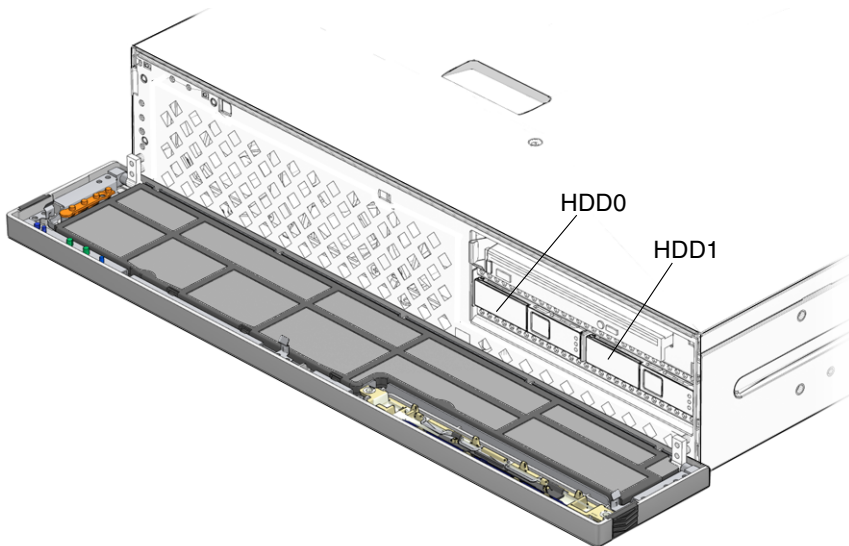

FIGURE 3-2 Locations of HDD0 and HDD1
2. Identify the location of the hard drive that you want to remove (FIGURE 3-2).
The hard drive is physically addressed according to the slot in which it is installed. See FIGURE 3-2. It is important to install a replacement drive in the same slot as the drive that was removed.